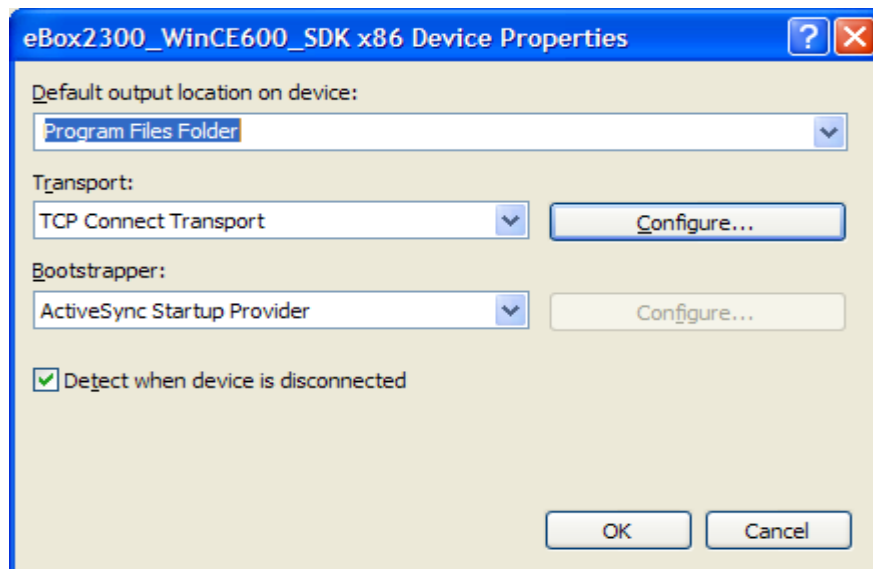

Figure 64. VS 2005 Device Properties
5. Click on the Properties button to bring up Your SDK Name x86 Device Properties setting screen as shown in figure 64.